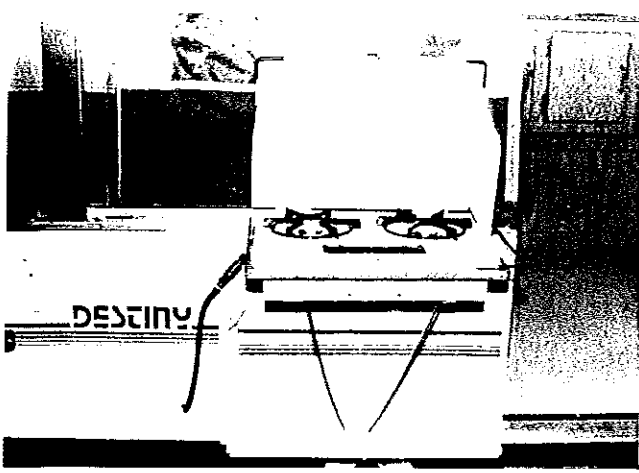

FIGURE 37
- G. Position the stove mounting bracket onto the two retaining loops located on the bottom front of the stove module. Tilt the stove slightly upward and engage the bottom portion of the mounting bracket onto the lower retaining bracket located on the lower section of access door or on the lower frame channel depending on the model. See Figures 37 and 38.